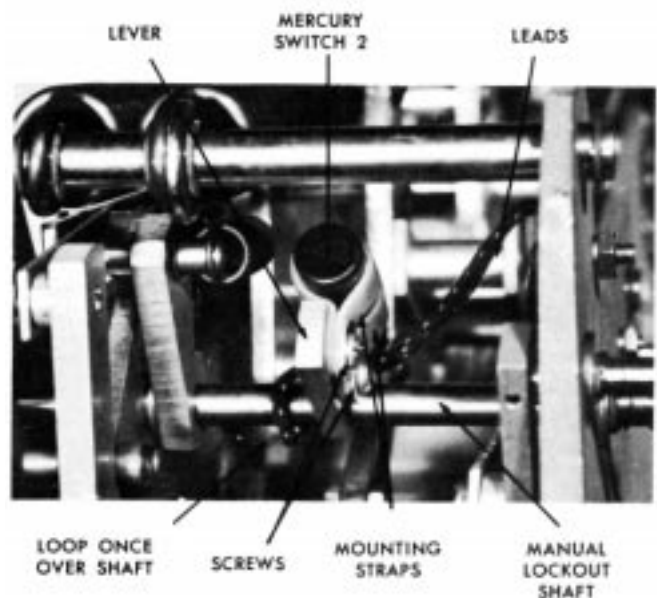

Figure 27
Refer to figure 27 and install new switch as follows:
5. Pass sleeving through mounting straps and tighten to secure sleeving. Connect switch leads to proper terminals. Position switch as shown in figure 27 and secure mounting straps to lever. If switch is positioned opposite to that illustrated in figure 27, the recloser will operate improperly.